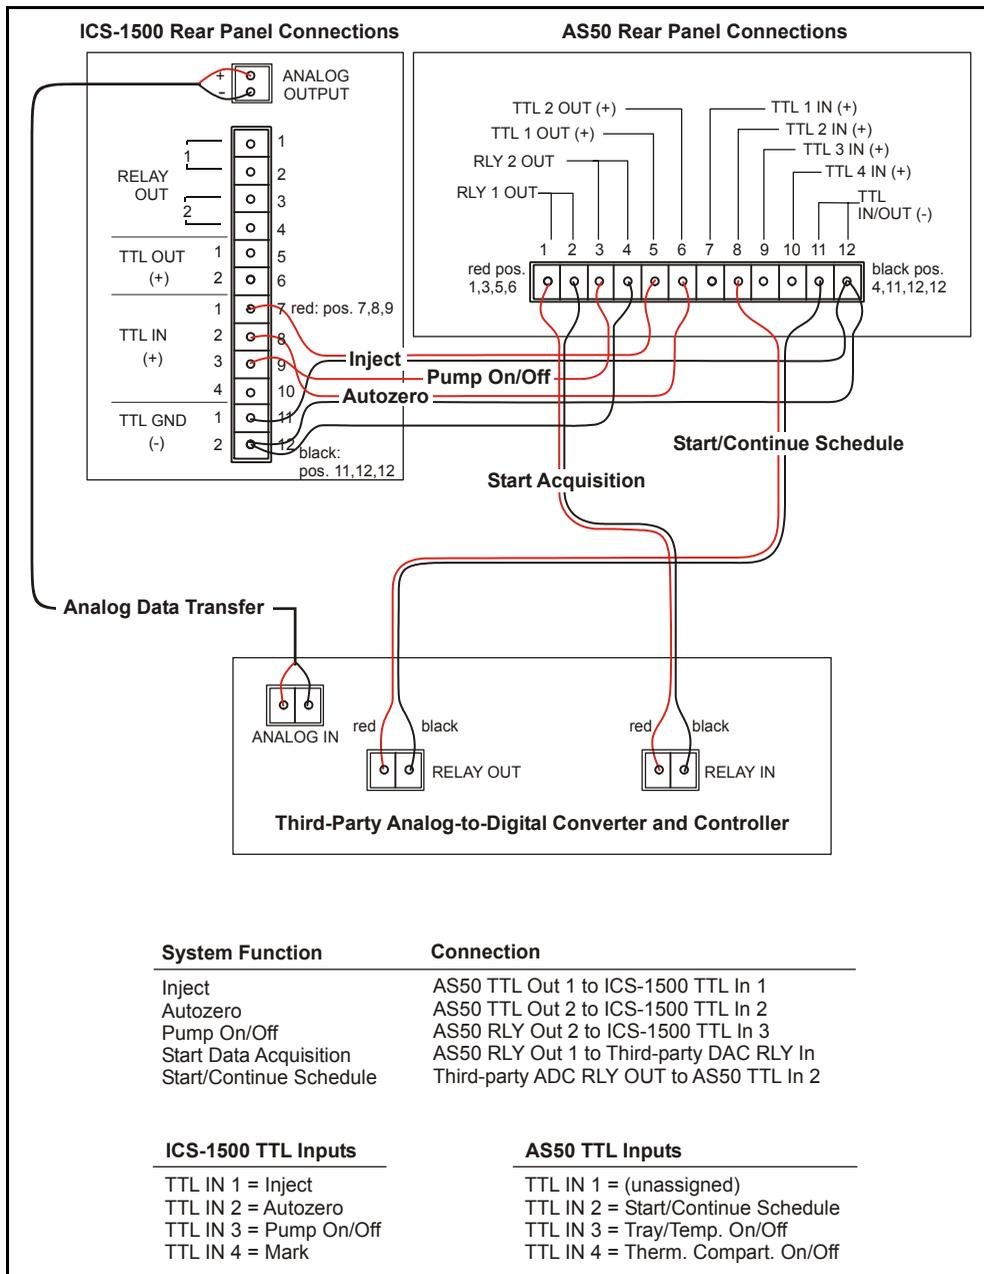

Figure D-7. Example Connections for Stand-Alone Operation
2. Attach the wires to the connector plug positions indicated in Figure D-7.
2. Connect the analog input connector on the third-party controller to the **ANALOG OUTPUT** connector on the ICS-1500 rear panel (see Figure D-7).
Figure D-11 is an example of AS50 method timed events that can be used with the TTL/Relay connections shown in Figure D-7.